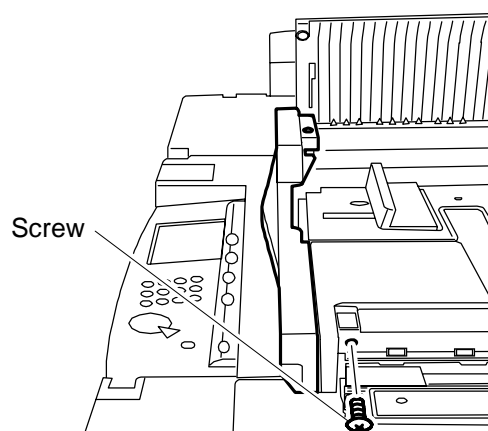

Fig. 3
- 2) Remove the 1 screw from the right face of the ADF. (Fig. 3)